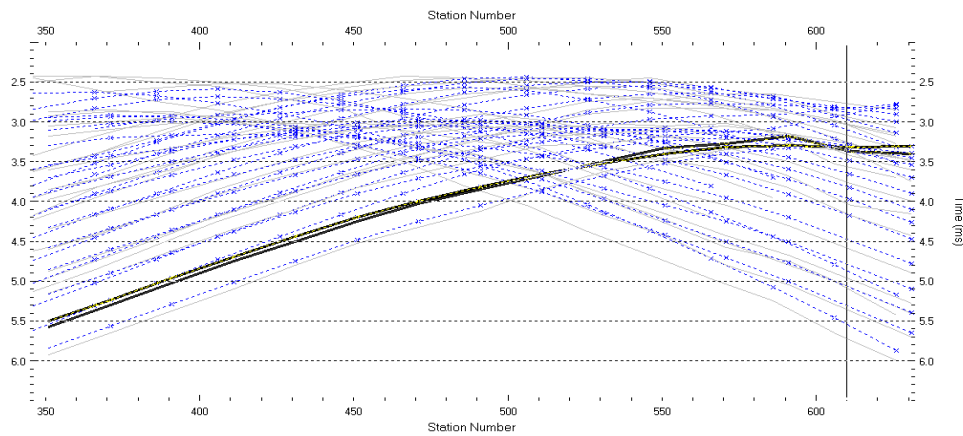

Fig. 4 : match between picked times (grey travelttime curves) and modeled (blue), after 20 WET iterations
- select *Refractor|Shot breaks* to review travelttime curves. See Fig. 4 on next page.